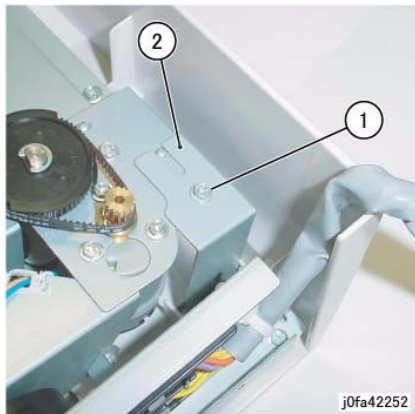

Figure 1 Removing the Bracket (j0fa42252)
5. Remove the rear Bracket. (Figure 1)